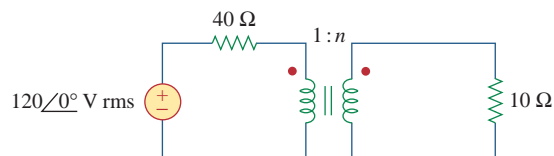

Figure 13.117
- 13.52** For the circuit in Fig. 13.117, determine the turns ratio n that will cause maximum average power transfer to the load. Calculate that maximum average power.